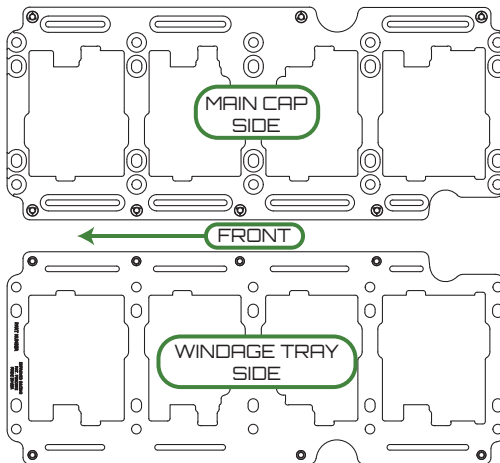

Figure 5 - Correct Crank Scraper Orientation
3. Use Figure 5 to ensure the scraper is oriented correctly, then loosely secure the scraper to the main caps.